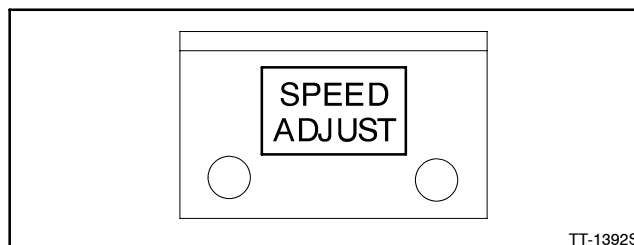

Figure 2 Bracket with Decal Attached
- 2.5 With bracket GM30860 surfaces clean and dry, attach decal GM30862 as shown in Figure 2.